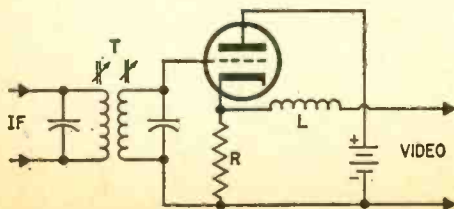
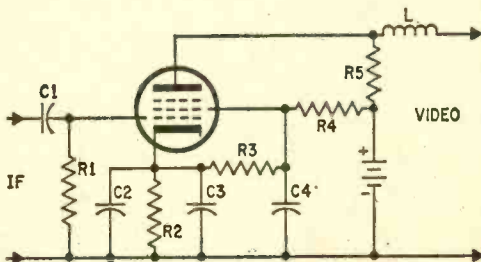

Fig. 35. Video detector using triode in cathode-follower hookup. Coil labeled "L" serves as RF choke.
Fig. 36. Video detector using pentode. Both this circuit and the one appearing in Fig. 35 are AM types.
Television sets have at least three detectors, a frequency converting mixer, an audio detector (FM) and a video detector (AM). The latter can be a diode or employ a triode, as in Fig. 35, or a pentode, as in Fig. 36. The former is an infinite impedance type (cathode follower) whereas the latter is a plate detector. In both circuits, coil L is an RF filter.